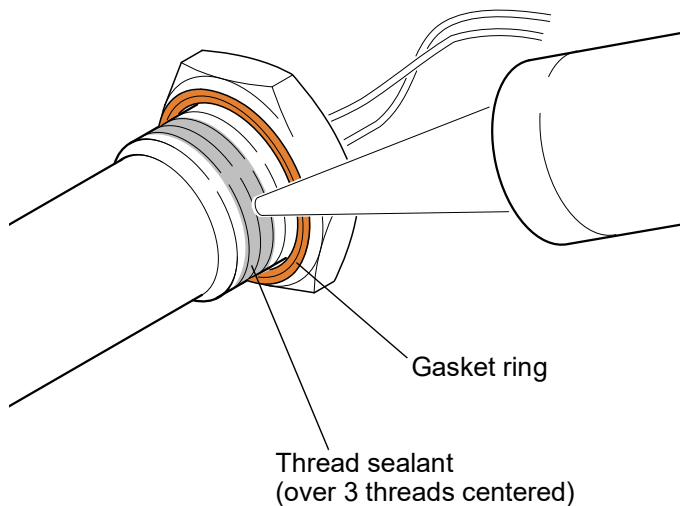

Fig. 806
3. Apply thread sealant according to the manufacturer's instructions onto the thread, see Fig. 806, of the heating cartridge (1, Fig. 803, Sheet 2) or the screw plug (3).